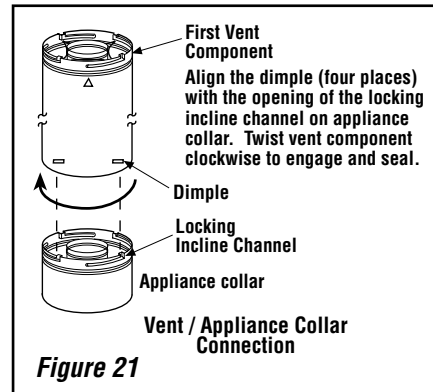

Figure 21
B. Attach vent components to appliance - **Secure Vent® SV4.5** direct vent system components are unitized concentric pipe system components featuring positive twist lock connections (*see Figures 21 and 22*).
To attach a vent component to the appliance collar, align the dimpled end over the collar, adjusting the radial alignment until the four locking dimples are aligned with the inlet of the four inclined channels on the collar (*refer to Figure 21*). Push the vent component against the collar until it fully engages, then twist the component clockwise, running the dimples down and along the incline channels until they seat at the end of the channels. The unitized design of the **Secure Vent** components will engage and seal both the inner and outer pipe without the need for sealant or screws. If desired a #6 x 1/2" screw may be used at the joint, but it is not required as the pipe will securely lock when twisted.